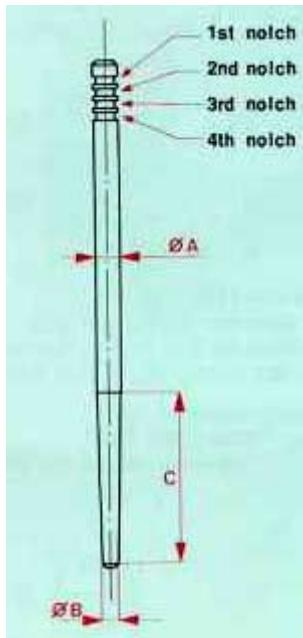

fig.26
- the diameter B of the tip (figure 26)